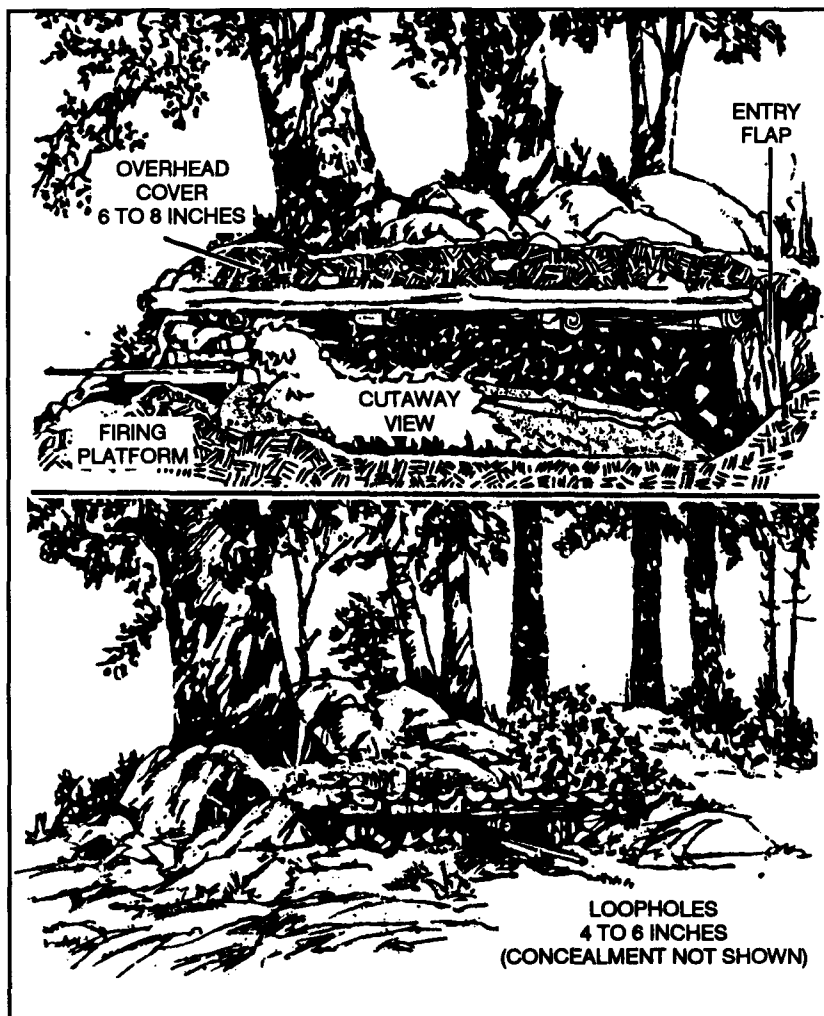

Figure 4-11. Belly hide position.
e. **Belly Hide.** The belly hide (Figure 4-11) is similar to the expedient position, but it has overhead cover that not only protects the team from the effects of indirect fires but also allows more freedom of movement. This position can be dugout under a tree, a rock, or any available object that provides overhead protection and a concealed entrance and exit. The belly hide is characterized by the following